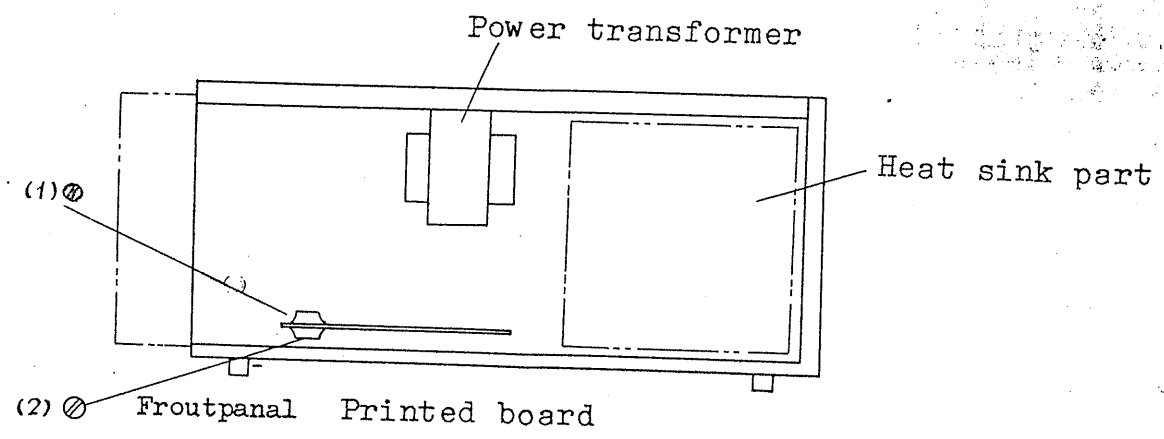

Fig.9
With the voltage adjusting knob on panel turned fully counterclockwise, adjust the semi-fixed resistor in the printed board (one with copper foil in the printed board, semi-fixed resistor in Fig.9 (1)).
With the voltage adjusting knob on panel turned fully clockwise (when provided with fine adjustment knob, almost at central position), adjust the semi-fixed resistor in the printed board (semi-fixed resistor of Fig.9 (2) of the semi-fixed resistors with many parts in the printed board).